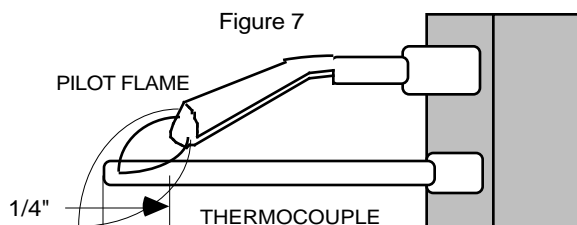

Figure 7
1. The **PILOT FLAME** should be steady and soft blue and surrounding approximately 1/4 inch of the end of the **THERMOCOUPLE** tip as shown at Figure 7.